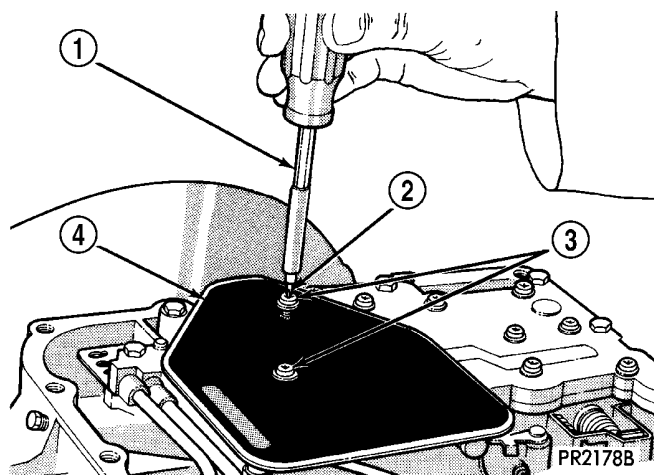

Fig. 80 Oil Filter Screws
(41) Install oil filter-to-valve body screws (Fig. 80) and torque to 5 N·m (45 in. lbs.) torque.